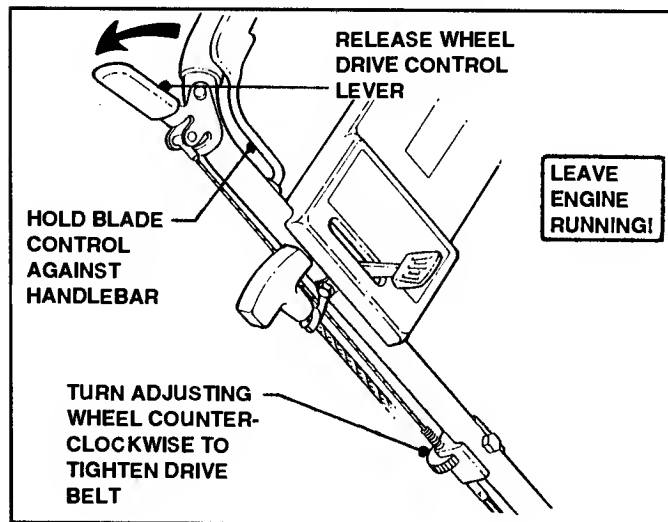

FIGURE 3.10
- Reach down with right hand and turn Drive Belt Tension Adjusting Wheel counterclockwise two (2) complete turns. See Figure 3.10.